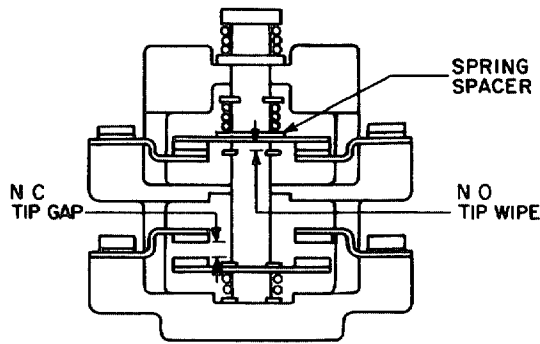

Fig. 5. Universal electrical interlock with one set of normally open contacts, and one set of normally closed contacts in the operated position
3. CONTACT GAPS AND WIPES - With the armature closed and resting against the latch, the contacts should have a gap of 1/16 in. minimum or a wipe of 1/32 in. minimum. See Fig. 5.